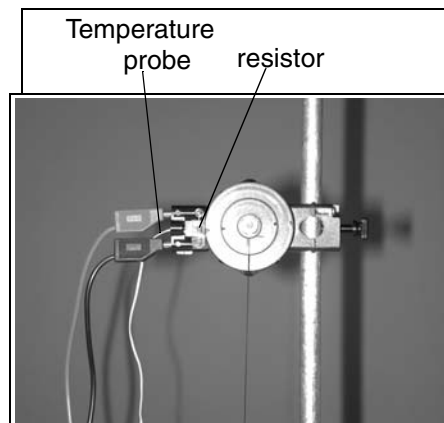

Figure 1-3a: Close-up with Temperature Probe
1. Tape the PS-2517 Fast Response Temperature Probe (accessory to the PS-2125 Temperature Sensor) over the 100-ohm load resistor (Figure 1-3a). In DataStudio, set the sample rate to 10 Hz.